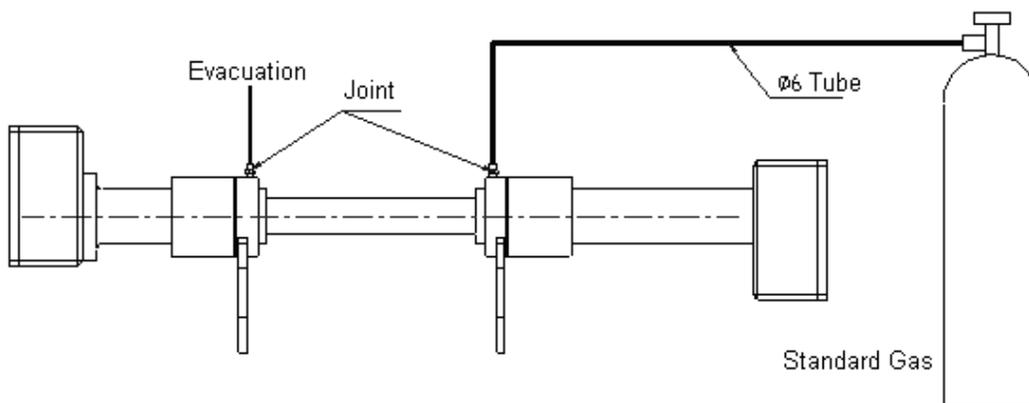

Figure 6.3 Schematic for Calibration Gas Transport Tubes
3. Mount the transmitter and receiver units to the flanges at the each end of the calibration devices, then and fasten the locknut (Figure 6.3)